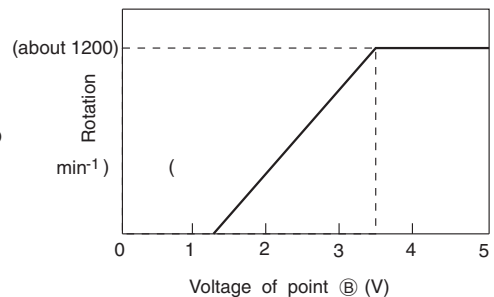

Fig. 3-3
- This pulse changes to analog voltage by R751 and C751 and it is applied to the fan motor as instruction voltage number of rotations. The relationship between the voltage of point ② and number of rotations becomes as shown in Fig. 3-3. (The gap may arise depending on the condition of unit.)
- The feedback pulse of number of rotation is outputted from the fan motor and input to micro computer pin ⑥⑧. The frequency of this pulse is 12/60 of the number of rotations. (Ex: $1000\text{min}^{-1} \times 12/60 = 200\text{Hz}$) The microcomputer observes this frequency and to make it as the instruction number of rotation all the time, adjusts the output pulse width of pin ④⑤.